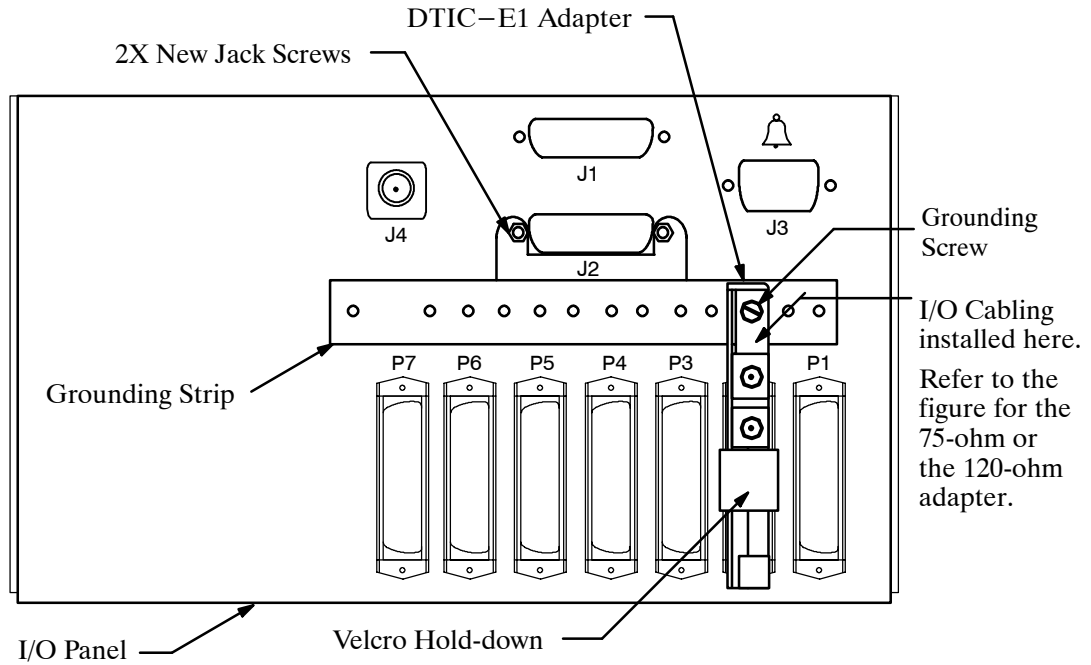
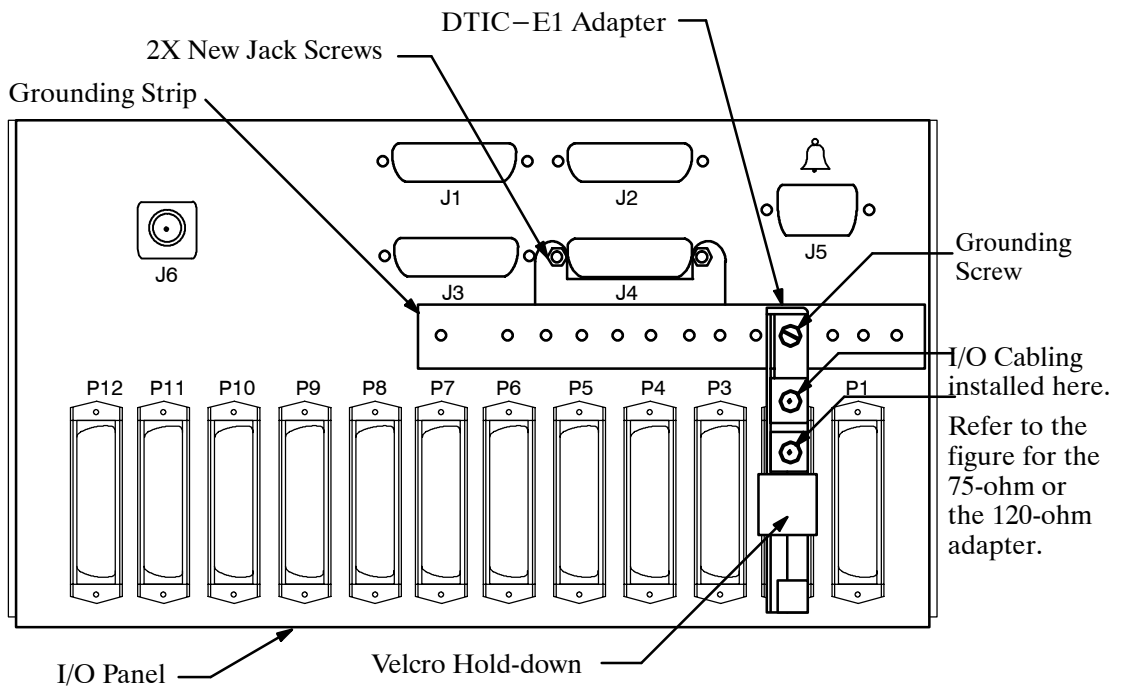

Figure 9-11 Octel 200 DTIC-E1 Kit Installation
Figure 9-12 Octel 300 DTIC-E1 Kit Installation
- J2 (for the Octel 200). Refer to Figure 9-11.
- J4 (for the Octel 300). Refer to Figure 9-12.
- Using two new jack screws provided with the kit and washers just removed, attach the grounding strip where shown in Figure 9-11 for the Octel 200 or Figure 9-12 for the Octel 300.